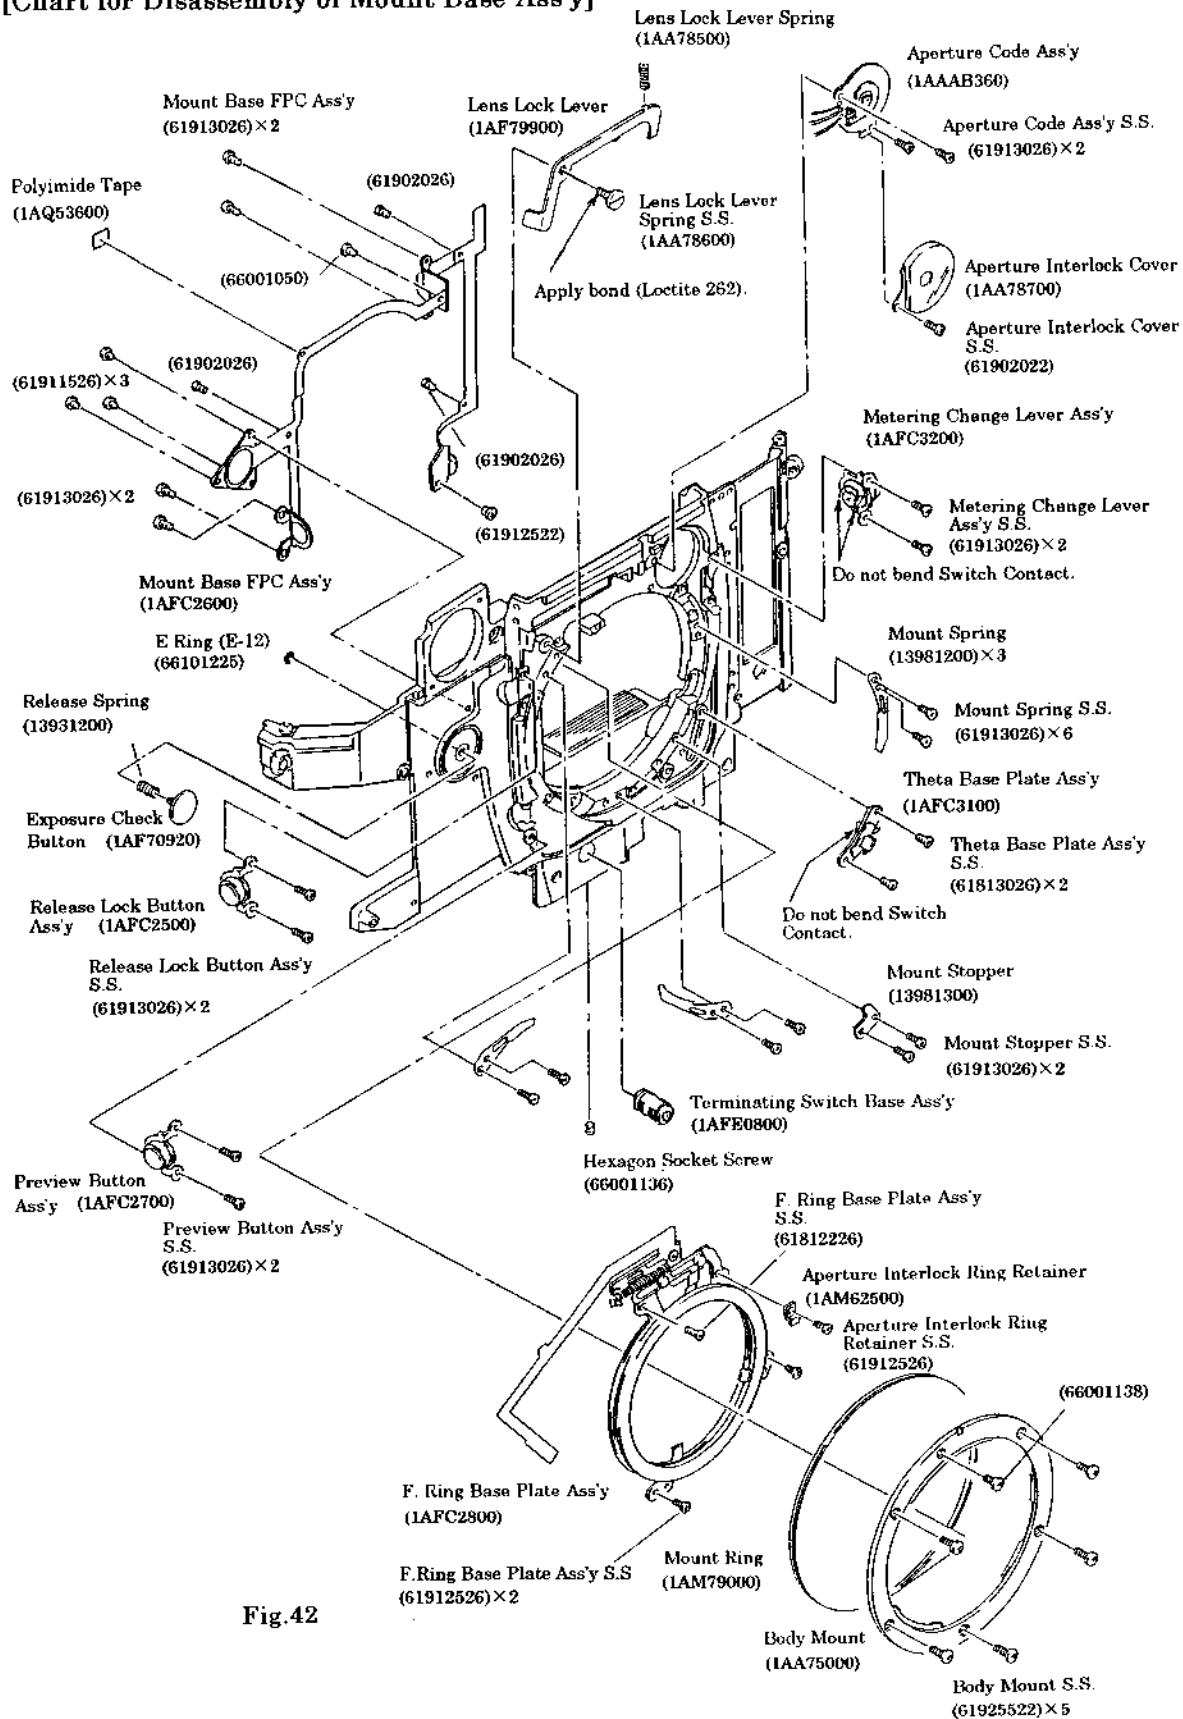

Fig.42
- 2) RW Base Plate (S) Ass'y Setscrews (61912526) × 2 and take off the RW Base Plate (S) Ass'y (1AFC4800).
- 3) Remove the RW Gear (3) (1AF77900), RW Coupling Shaft (1AF78200), RW Gear (2) (1AF77800) and RW Coupling Shaft Holder (1) (1AF78300).
- 5) Remove the F. Base Plate Ass'y Setscrews (61923022) × 2 and F. Base Plate Ass'y (1AFC3300). (See Fig. 42)
(See Fig. 42)